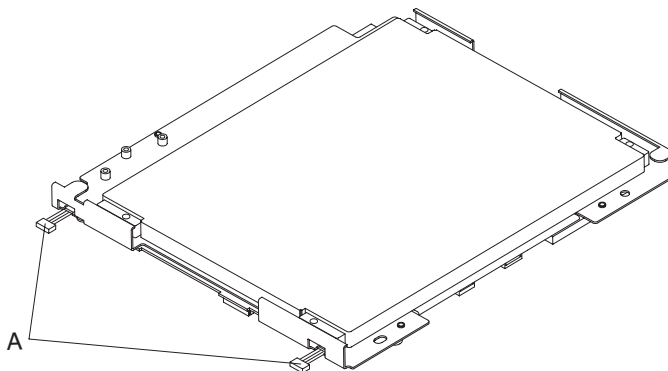

Figure 71. Disconnecting the backlight cables from the system board
4. Disconnect the LCD backlight cables **A** from the system board, as shown in Figure 71.